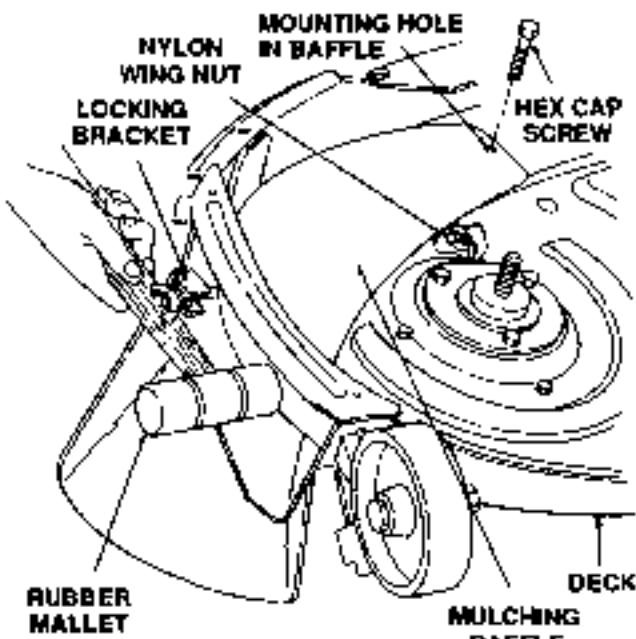

Figure 7-6. Seating the Baffle Assembly.
- Using a rubber mallet to tap the side baffle through the discharge opening (see Fig. 7-6), alternately tap the rear area of the baffle and retighten the wing nut (or hex nut, if used). Repeat until the baffle is completely seated, and the inner mounting hole of the baffle aligns with the hole in the deck.
- Insert the hex cap screw (see Fig. 7-6) from the underside of the deck and secure with the second wing nut.